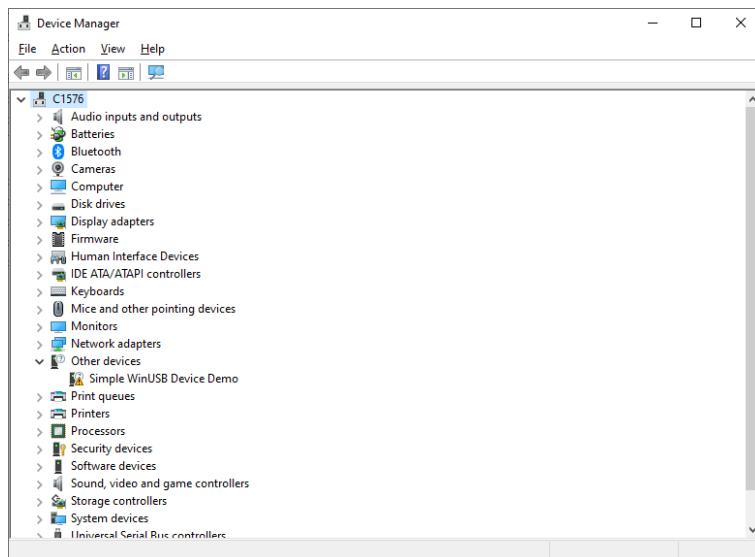

Fig. 11.9: Device Manager window with the USB driver not yet installed.
3. From the "Device Manager" window, right click on the "Simple WinUSB Device Demo" item in the "Other devices" list (see **Fig. 11.9**) and select the "Upgrade Driver" option.